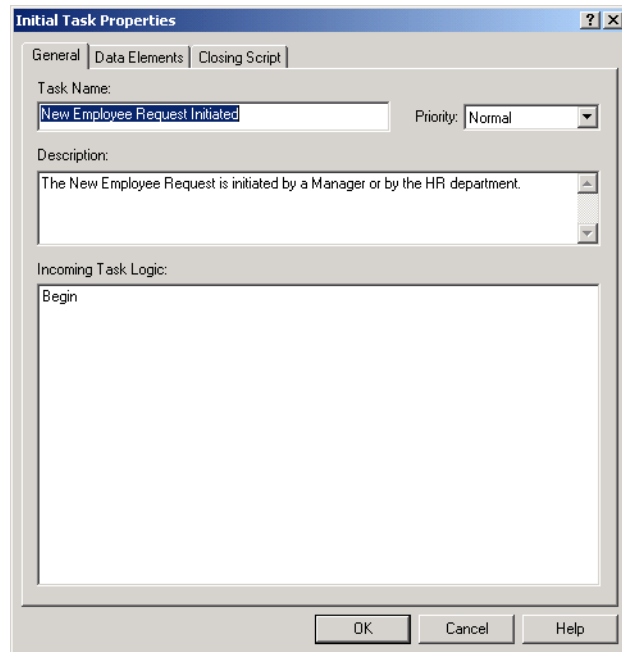

Figure 29-6. Task Configuration dialog.
- ❶ Double-click on the task. The Task Properties dialog opens to the General tab. This is where you configure the logic and various settings that will determine the task's behavior (see Figure 29-6, below).